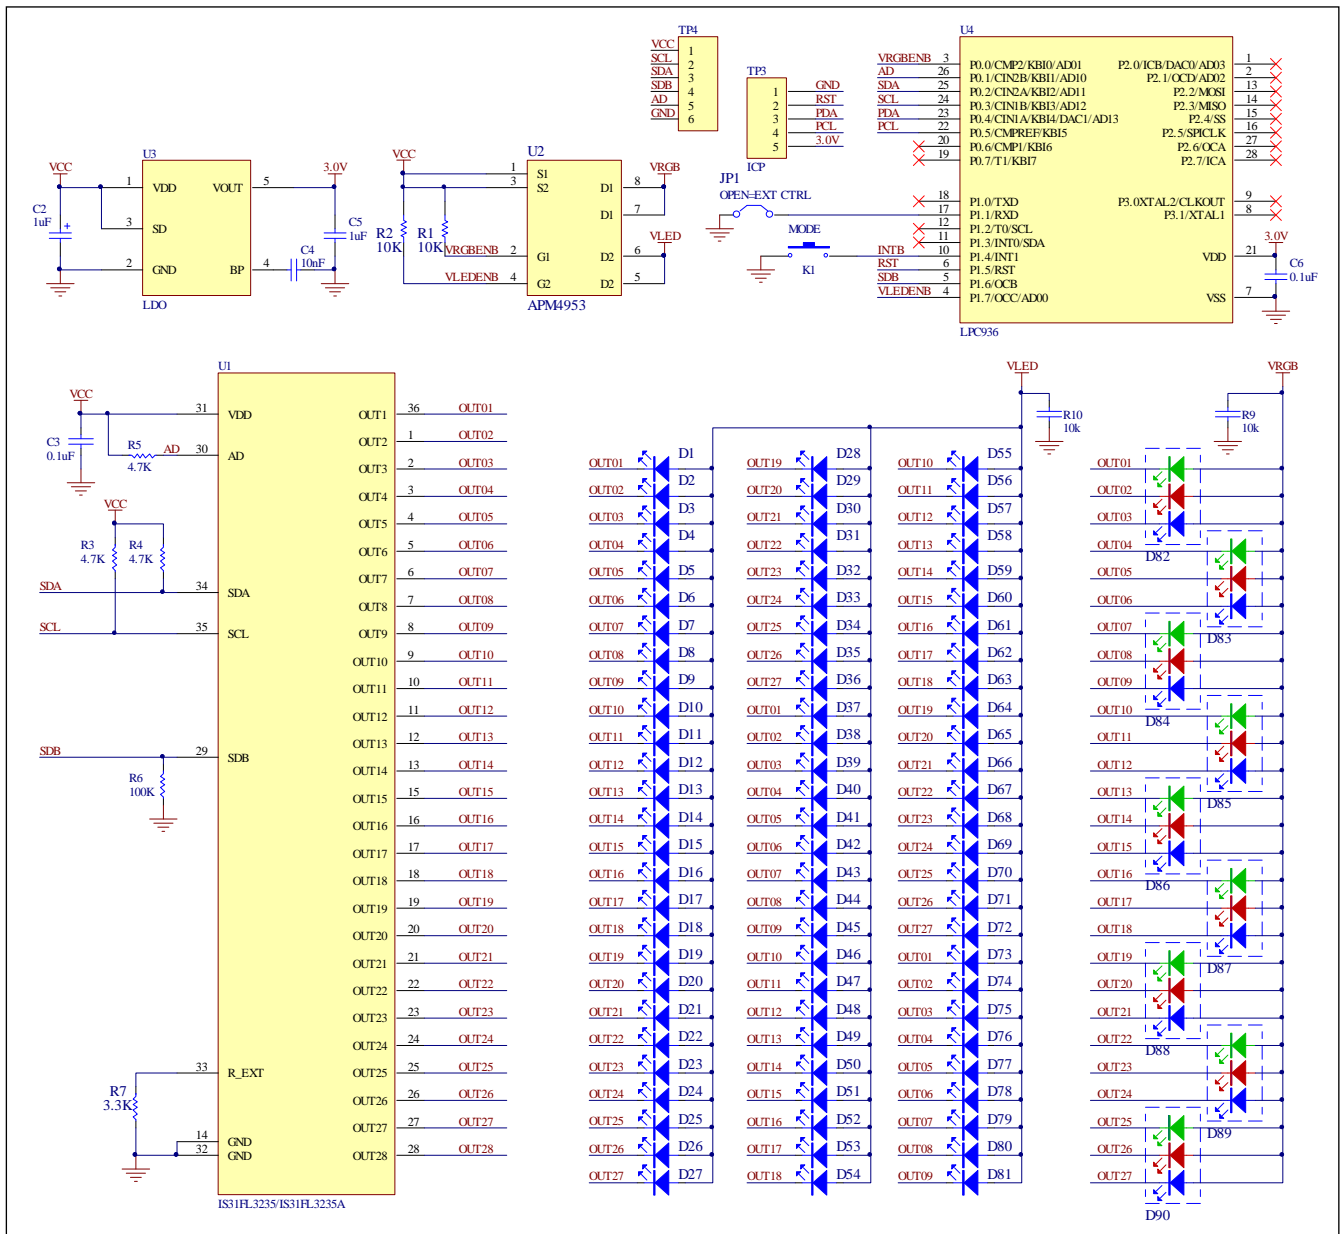

Figure 3: IS31FL3235/IS31FL3235A Application Schematic
*Bill of Materials, refer to Figure 3 above.*